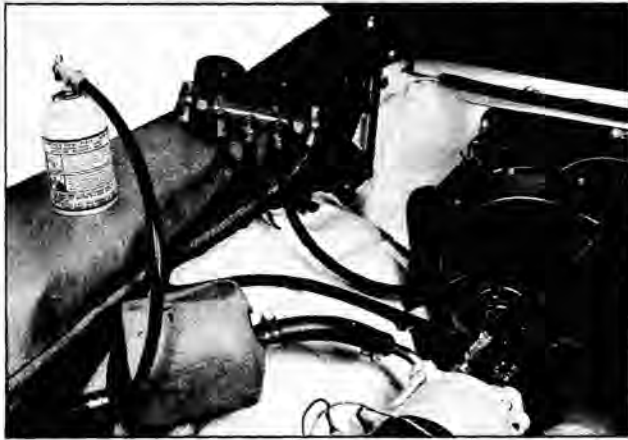

Fig. 6-34 Charging the System—Pontiac Shown (Disposable Single Can Method)
3. Connect center flexible line of gauge set to the fitting on a can opener valve. (See Fig. 6-34).
(1) Make sure the outlet valve on the J-6271 Fitz-All Valve is fully clockwise and attach the J-6271 to a "one pound" can of refrigerant as follows: back off the valve from the top of the retainer, slip the valve onto the can and turn the valve into the retainer until tight. Do not open outlet valve during this operation as turning the valve into the retainer punctures the top of the can to make it ready for charging.
(2) Connect center flexible line of gauge set to the fitting of the valve (Fig. 6-34).
(3) Start engine, move temperature control to full cold position and place blower knob on "HI" speed. Operate engine for ten minutes at 1500 rpm to stabilize system.
(4) With compressor operating, open valve on refrigerant can slowly and allow refrigerant to flow into system (through suction side of gauge set) until liquid indicator clears up and immediately shut off valve at gauge set and on refrigerant can. Check weight of can and valve assembly and record, then add one-half pound refrigerant. It may be necessary to attach another can to obtain the additional one-half pound refrigerant.